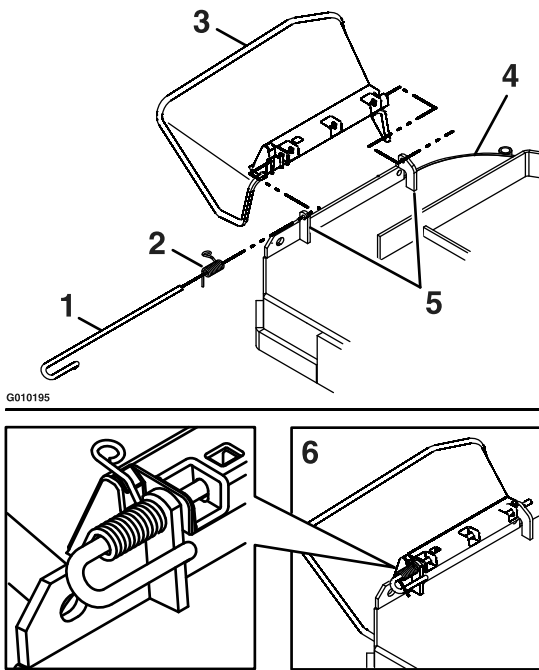

Figure 7
2. To install new discharge deflector, orient the spring on the rod as shown in Figure 7. Slide the rod through the front discharge deflector bracket, discharge deflector, and rear deflector bracket.
- Hook the bent end of the rod around the front discharge deflector bracket to retain it from sliding out. Place the leg of the spring with the loop in the notch in the discharge deflector to hold the discharge deflector in the down position (see Figure 7).